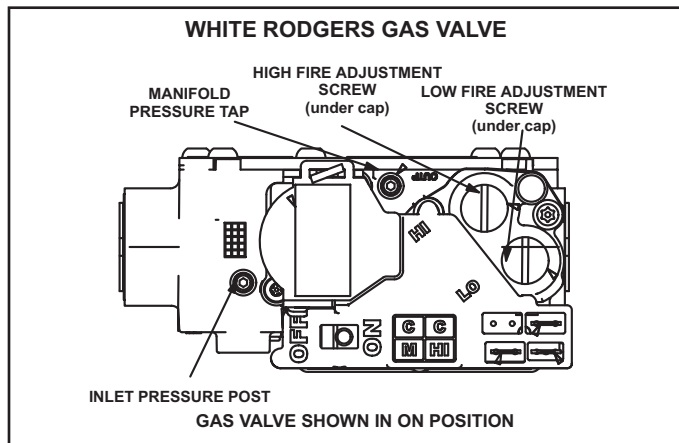

FIGURE 16
- 6 - Turn switch on gas valve to OFF. Do not force. See FIGURE 16.
- 8 - Move switch on gas valve to ON. Do not force. See FIGURE 16.
An inlet post located on the gas valve provides access to the supply pressure. See FIGURE 16. Back out the 3/32 hex screw one turn, connect a piece of 5/16 tubing and connect to a manometer to measure supply pressure. See TABLE 20 for supply line pressure.
- 1 - Connect test gauge to manifold pressure post (FIGURE 16) on gas valve.
- 4 - If necessary, make adjustments. FIGURE 16 shows location of high fire and low fire adjustment screw.